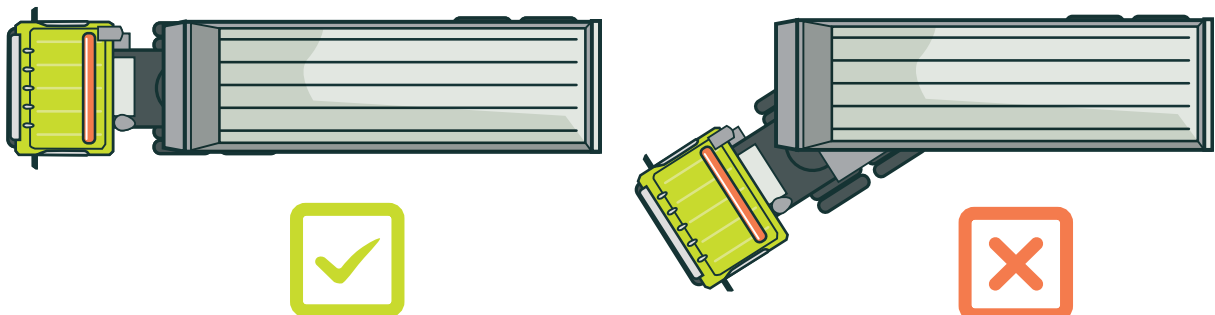

FIGURE 8: Truck and trailer axles should be aligned
- make sure the truck and trailer axles are aligned during tipping (see Figure 8)